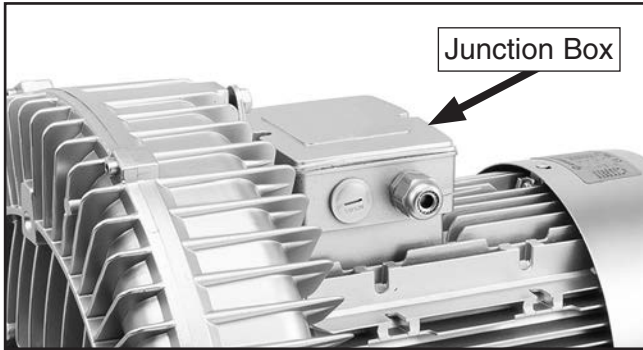

Figure 40. Vacuum pump junction box.
2. Open vacuum pump junction box (see Figure 40).